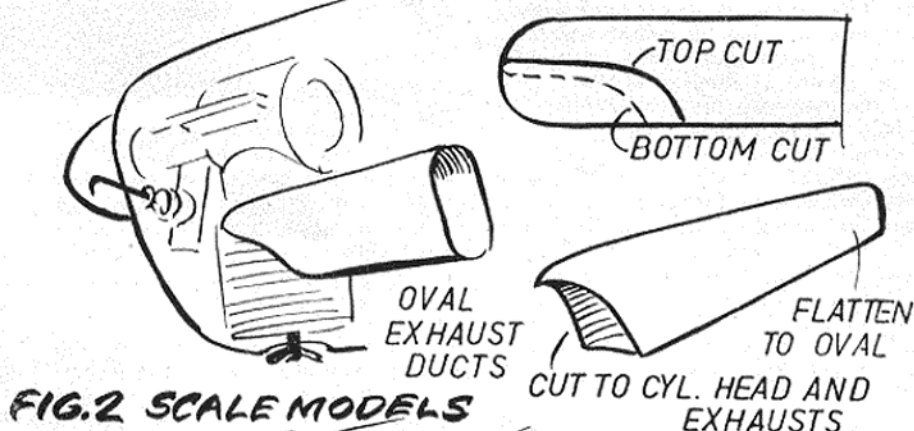

FIG.2 SCALE MODELS
3. For scale and semi-scale power models where cowed engines are used, cooling and exhaust ducts make for efficient running and help to keep exhaust "slime" from attacking the wood. (Fig. 2.)